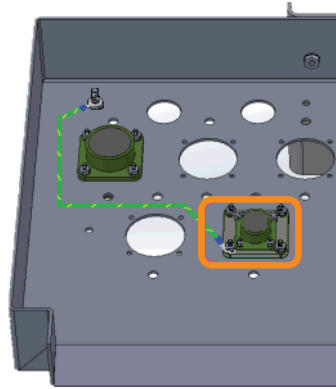

Figure 1 Install Ring Terminal
- Step 1. Install the adapter plate in the bottom of the cabinet in the rightmost hole in the front row. See *Figure 1*.
- Step 2. Install the 8-pin (size 12) voltage input receptacle harness in the adapter plate. See *Figure 1*.
- Step 3. Install the smaller ring terminal of the green/yellow ground wire and the two drain wires to the last adapter screw and secure them with the last nut. See *Figure 1*.
- Step 4. Use the existing nut to connect the larger ring terminal of the green/yellow ground wire to the ground stud. See *Figure 1*.